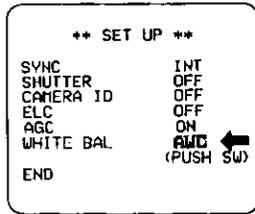

Fig. 20
- By pressing the Setup Mode Button (SET UP) for more than 1 second, the "SET UP" menu is displayed on the monitor screen as shown in Fig. 20.
- Display the Setup menu as shown in Fig. 20.